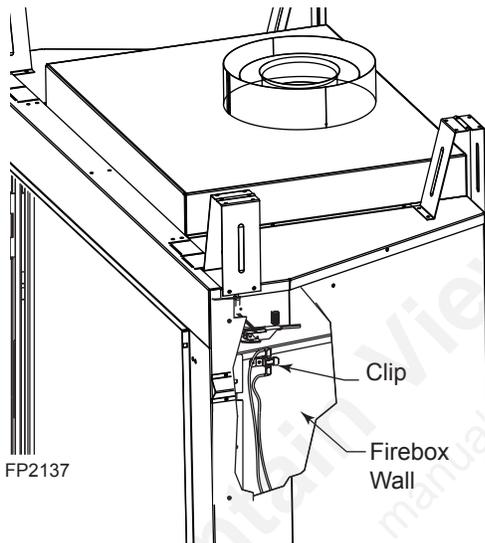

Figure 35 - Blower Access Covers
12. Snap the fan limit switch behind the clip already assembled to the side of the firebox on the front right hand side. *Figure 35*